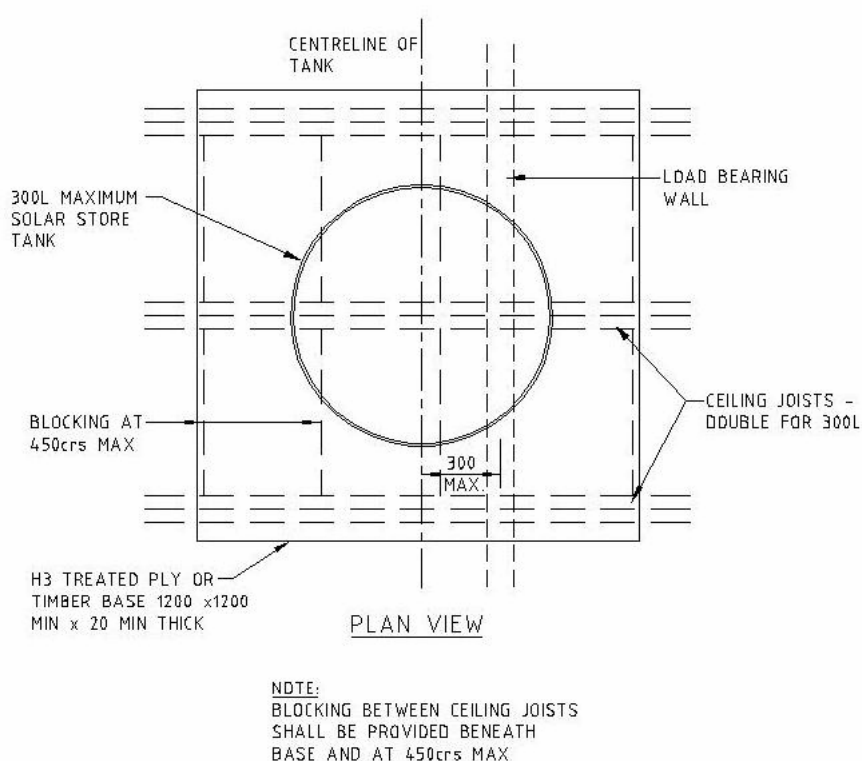

Fig 3 – Support of store tanks in the roof space
- 5.1 Solar Store tanks up to 300l capacity in the roof space shall be supported over walls as in Figure 3. Installation of 450l tanks in the roof space requires specific engineering design